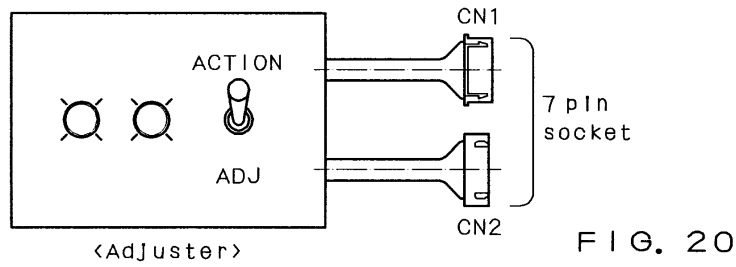

FIG. 20
2. Connect the adjuster. (FIG.20) :